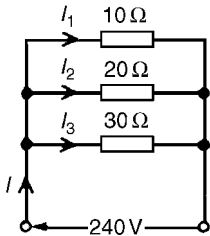

Figure 5.22
- (b) The parallel circuit is shown in Fig. 5.22